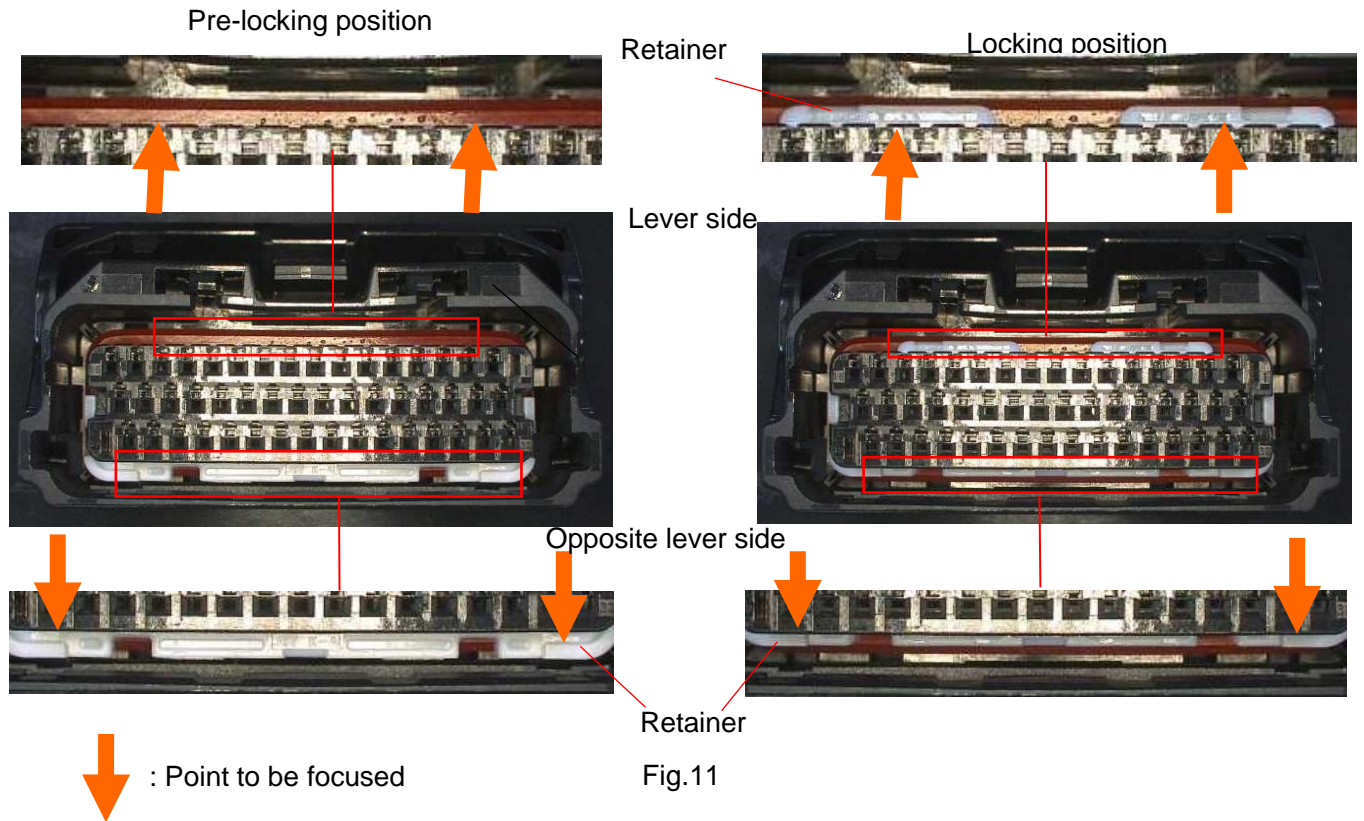

Fig.11
As shown in Fig.11, in case of pre-lock condition, the retainer is inserted at the lever side of the housing but it comes out at the opposite lever side only. On the other hand, in case of locking condition, the retainer comes out at both sides of the lever side and the opposite lever side.
- ① Check that the retainer has been released to the pre-lock position. (Fig.11)